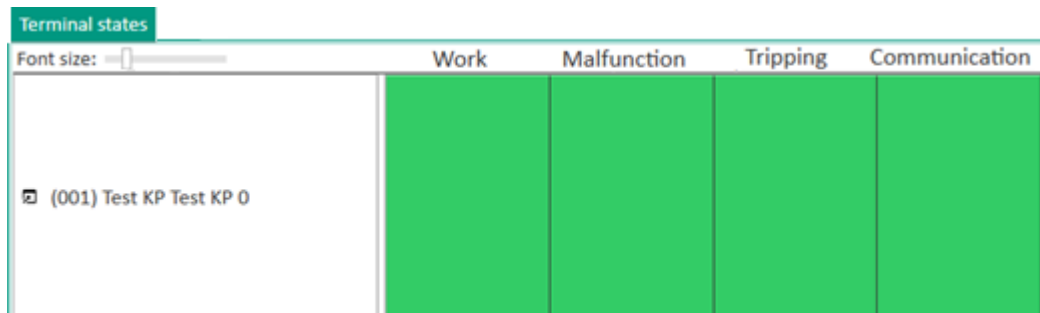

Figure 253 – Connection to the device is available
b) connection to the device is available; the device is in normal operation state (figure 253);